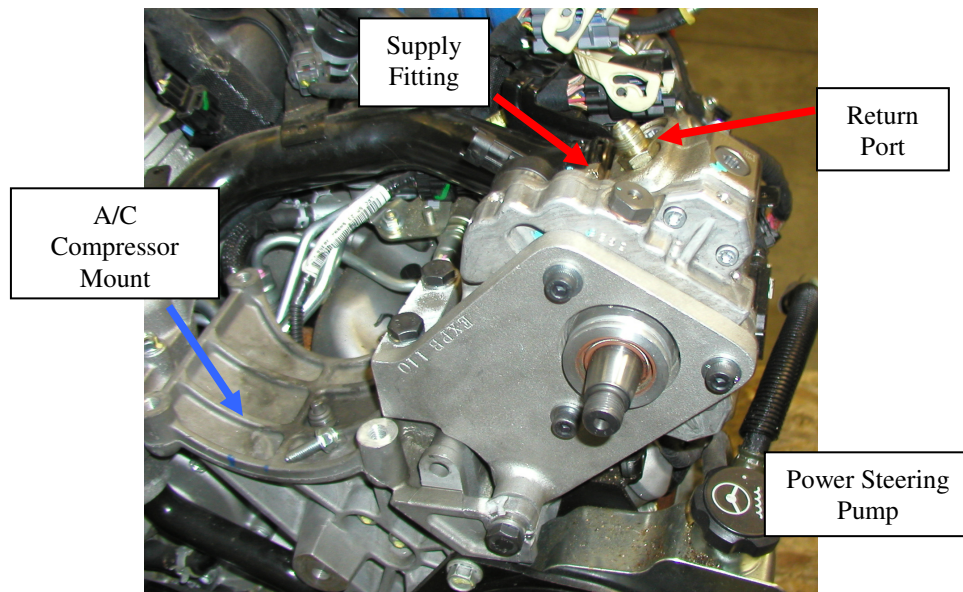

Figure 12: Correct Pump and Bracket Installation
17. Using the three 8mm X 1.5 X 50 socket cap bolts, washers and flange nuts install the pump on the pump-mounting bracket. The pump should be clocked on the bracket so the fittings are facing upwards. Using the three 10mm bolts and washers, install the bracket and pump on the engine mounts located next to the A/C compressor, Figure 12.